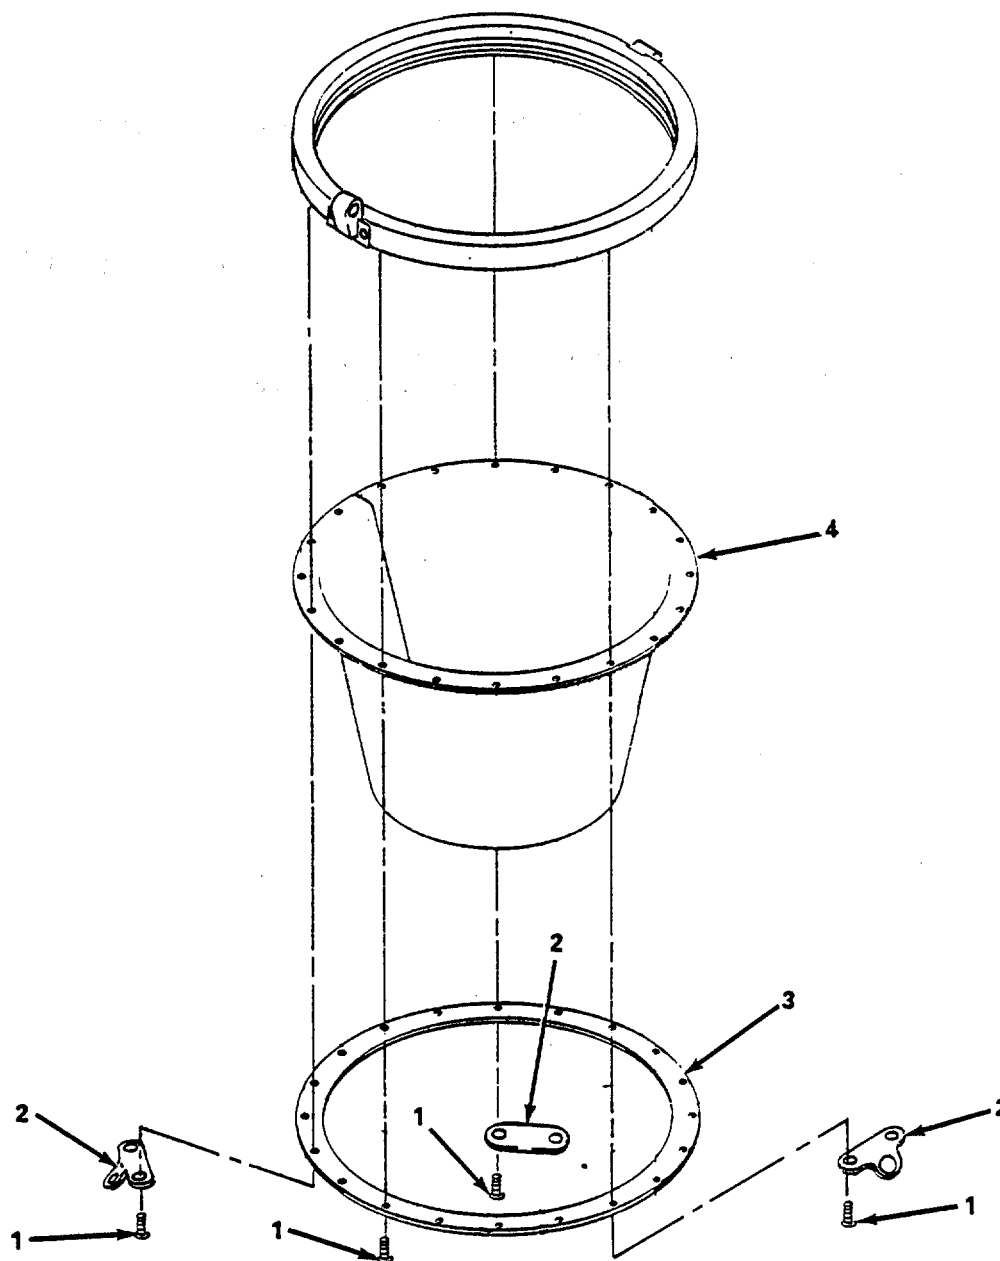

Figure 5-4. Neck Dam, Replace.
- (4) *Replace (neckdam).* (figure 5-4).
- (a) Remove 20 screws (1), three jocking harness brackets (2), lower breech ring retainer (3), and neck dam (4).
- (b) Install new neck dam (4) and secure with lower breech ring retainer (3), three jocking harness brackets (2), and 20 screws (1). Torque screws to 18-20 in.-20 (2.1-2.3 Nm).